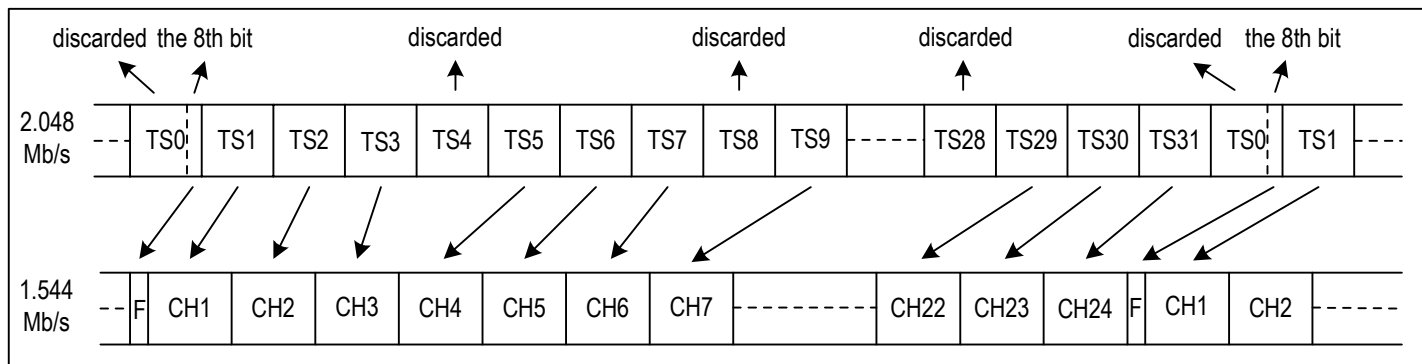

Figure 26. E1 To T1/J1 Format Mapping - One Filler Every Fourth Channel Mode
- T1/J1 Mode E1 Rate per One Filler Every Fourth CHs (refer to Figure 26): The 8th bit of Frame N on the system side is converted to the F-bit of the Frame N to the device. Then one byte of the system side is discarded after the previous three bytes are converted into the device. This process repeats 8 times and the conversion of one frame is completed. Then the process goes on.